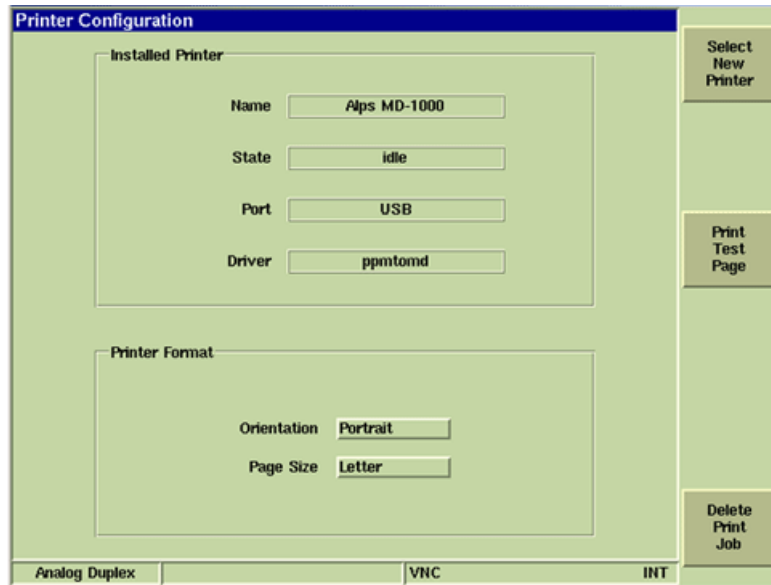

Fig. 4-30 USB Printer Installation Complete
7. When printer installation is complete, the Printer Configuration Tile should appear as shown in Fig. 4-30.